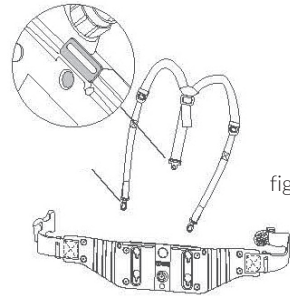

fig.10
2. Position the shoulder straps as desired and then attach the two hooks to the corresponding holes on each side of the belt (See fig.10).